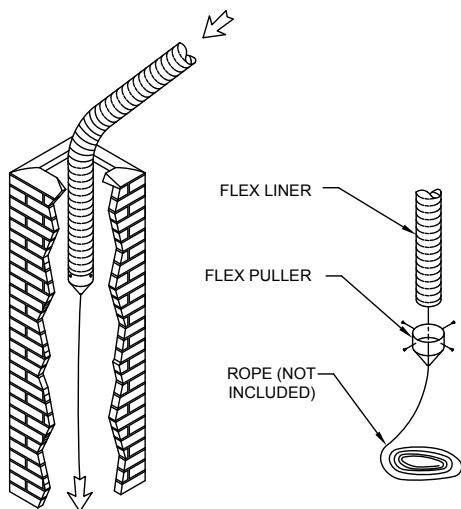

Figure 6
Step 4. Secure a rope to the Flex Puller and attach the Flex Puller to DuraFlex Liner, as shown in **Figure 6**. One person should feed the Liner through the chimney, and another person should pull the Liner from the bottom, using the rope to guide the Liner though to the chimney bottom.